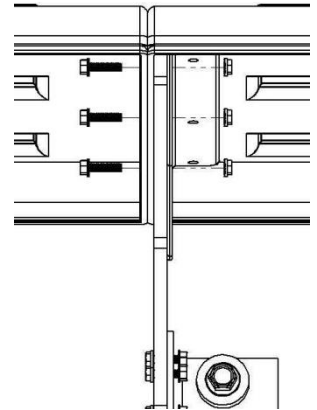

Figure 9
D. Install center bracket as close to where the fenders join together as possible (Figure 9).